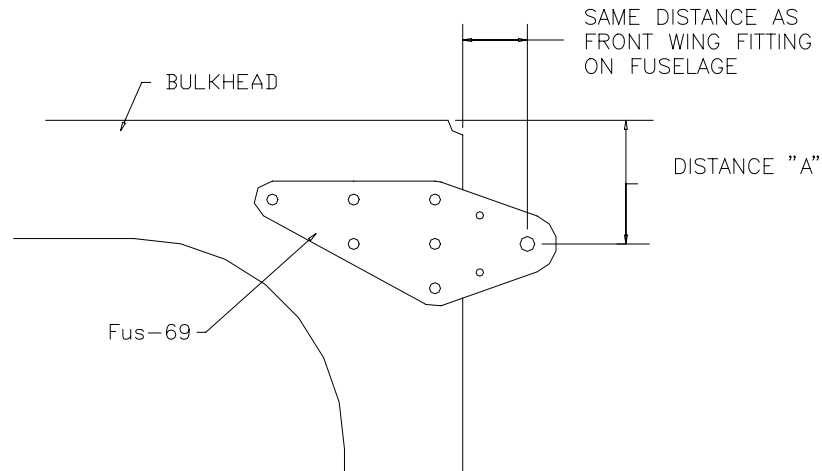

Figure 9.13.7
- 16) Insert the four rear attach brackets (FUS-69) into the slot. Figure 9.13.7.
- 17) Ensure the wing attach hole in the rear attach brackets (FUS-69) is in the correct location as in Figure 9.13.7. Drill the five attach holes back through the fitting and into bulkhead 9 with a #30 drill.